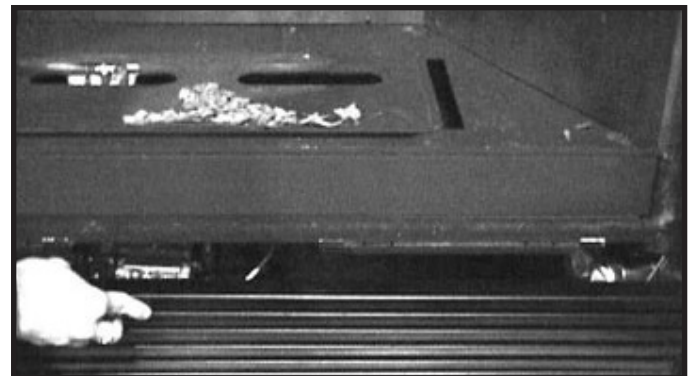

Figure 1 GFK-160C
1. Open the control access panel by pulling it up and out. See Figure 1.